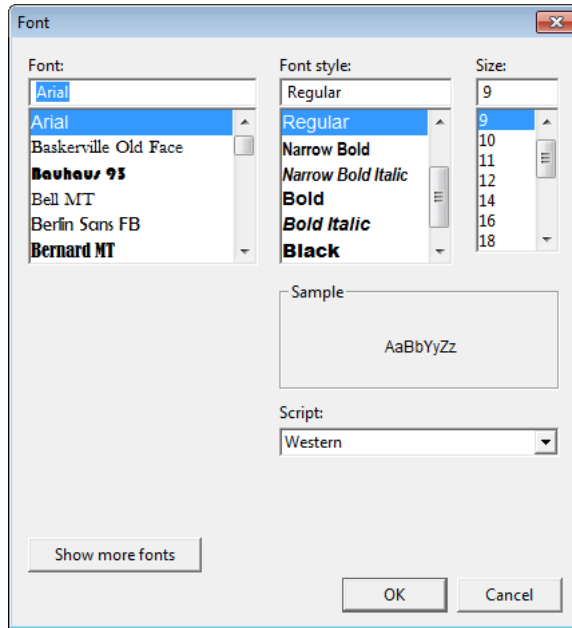

Figure 81: Font Window
3. Specify new fonts by clicking the button with the name of a font inscribed on it. This action will display the Font Window. Choose the font type, style, size, and script, then click **OK** (see Figure 81).